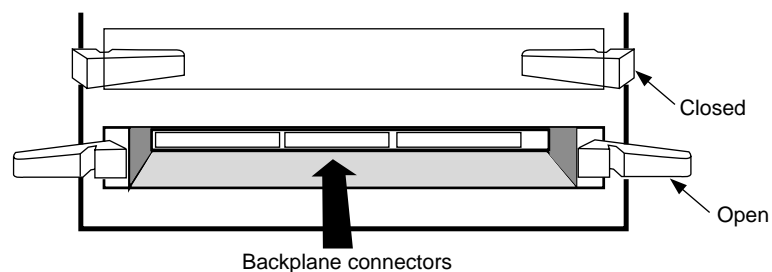

Figure 2-4 View of Open and Closed I/O Slot Ejector Handles
- a Make sure the slot ejector handles are in an open position, as shown in Figure 2-4.
Figure 2-4 shows ejector handles in open and closed positions.